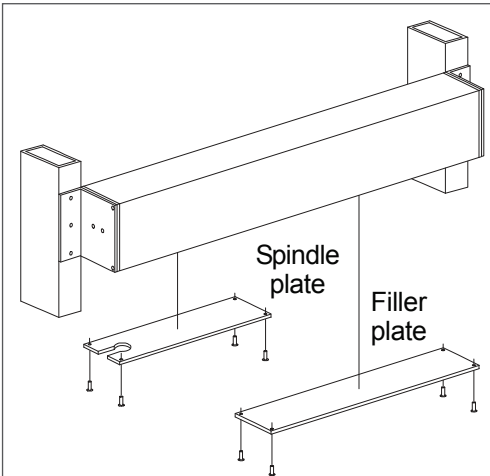

Figure 15-1
1. Install spindle plate and filler plate (Figure 15-1). Spindle plate cutout fits over operator spindle.